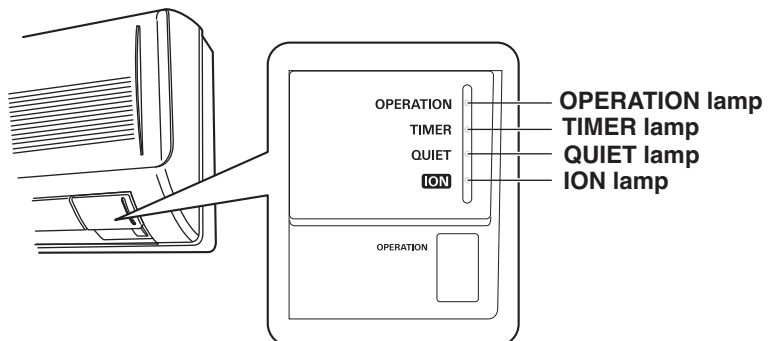

Fig. 11
- This starts the fan producing uncooled forced air with the 4 indicator lamps (OPERATION lamp, TIMER lamp, QUIET lamp, and ION lamp) on the main unit blinking. (Fig. 11)